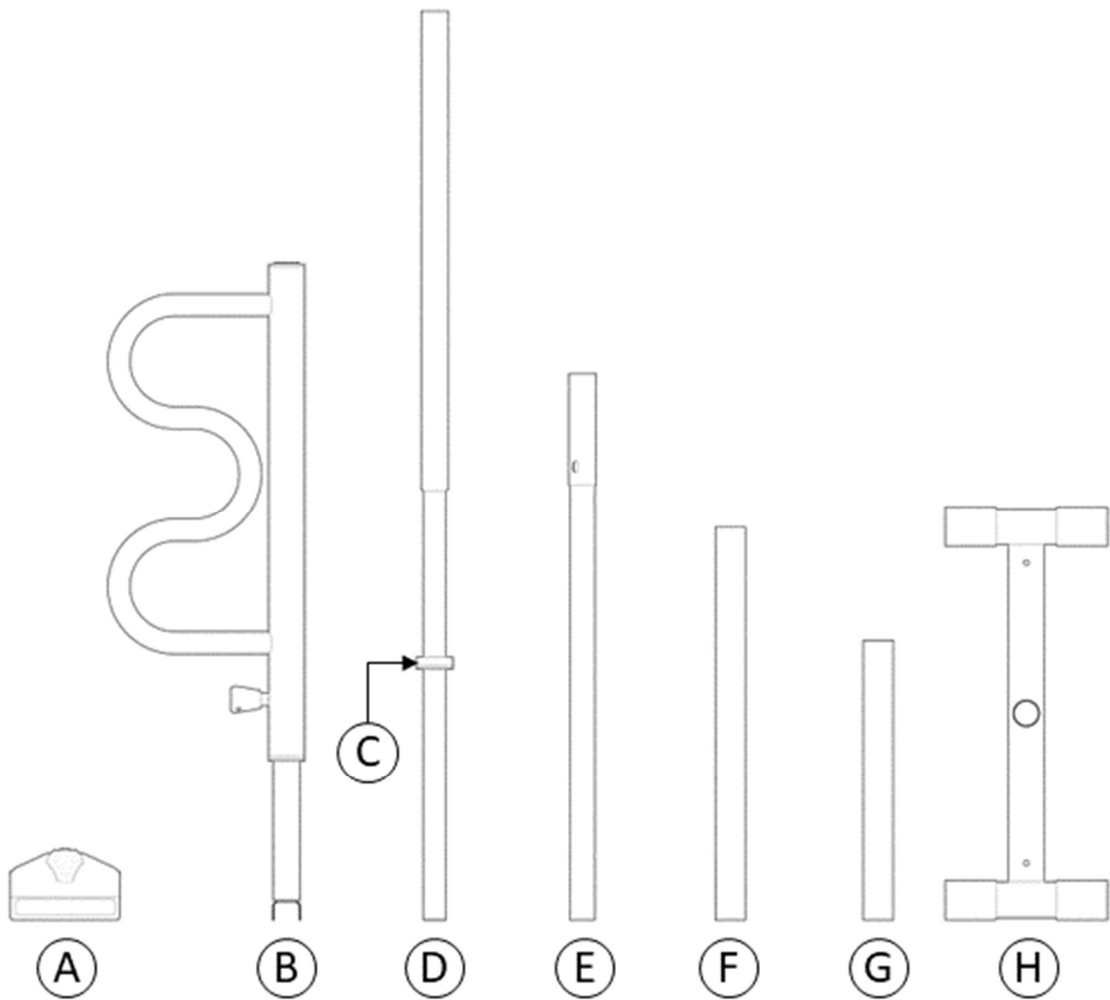

FIGURE 1
1. Remove the product from box/package. Remove black packaging component from **B**. Remove plastic sleeves **F** and **G** from **D**. Identify all parts as shown in *FIGURE 1*.